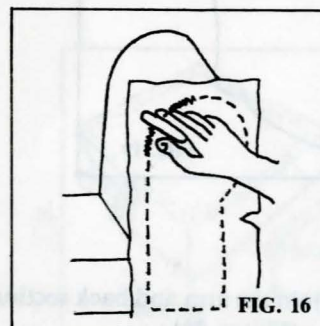

FIG. 16
**Front of the arm** piece is pinned in position on the chair. Chalk-mark the shape using the upholstery cording on the chair as guides. A pattern can be made the same way with paper, and then cut and tested to be sure it fits perfectly (Figure 16).